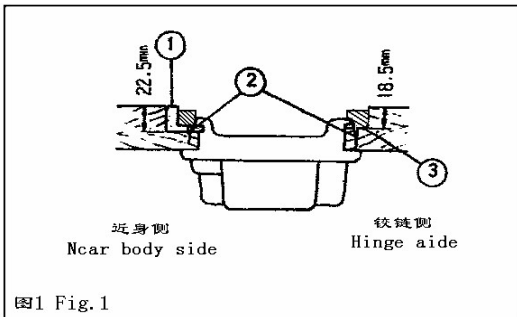

图1 Fig.1
#### 4、Installation of the machine(Fig.1)
Put the oil reservoir rubber cushion ① and oil reservoir felt cushion ③ on four corners of the opening of the table, fix them with the wood screws ②,then instal the oil reservoir (Fig.1)